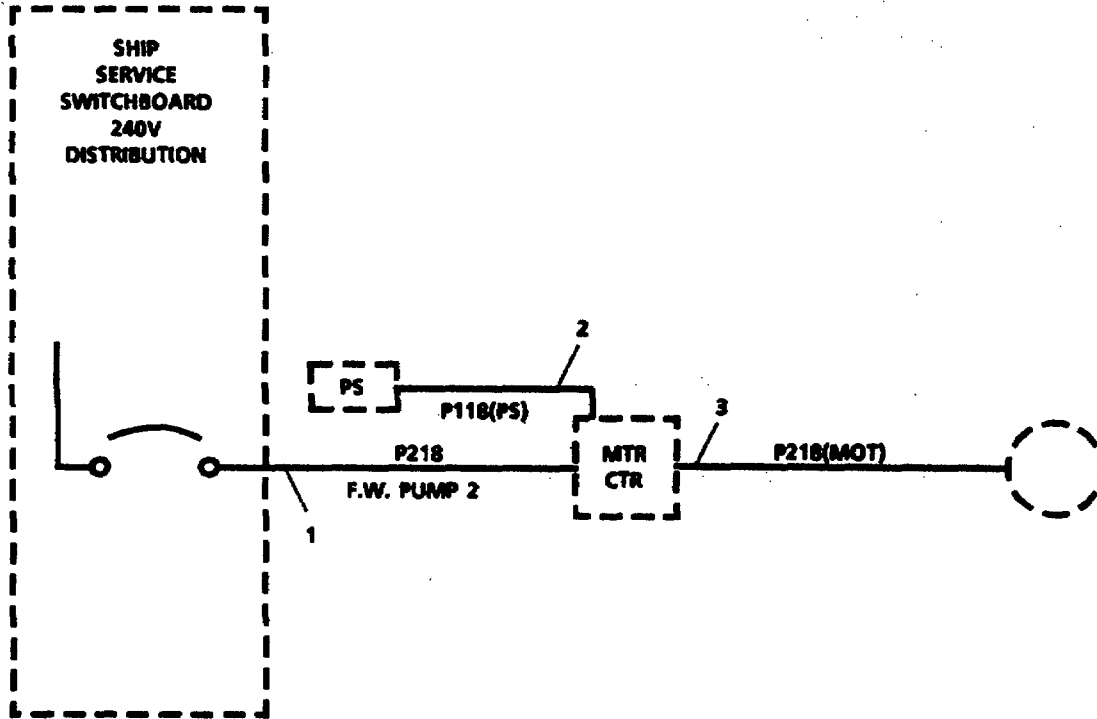

FIGURE 3-143. *Fresh Water Pump No. 2 Power Distribution.*
**3-157. Repair Fresh Water Pump Number 2 Power Distribution. (Figure 3-143)**